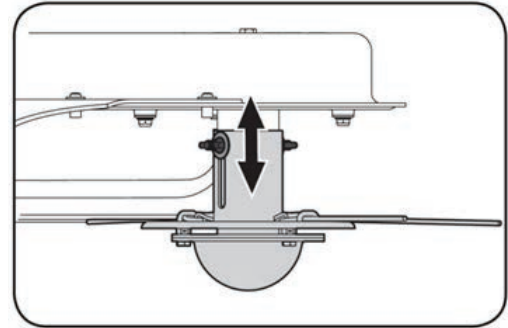

Figure 3-2
2. Slide the spindle upward or downward to the desired position before re-tightening the wing nuts. See Figure 3-2.